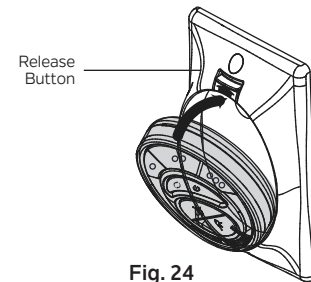

Fig. 24
Step 1. Insert the transmitter into the wall plate by inserting the bottom of the transmitter first and then pressing the top of the transmitter into the pocket. The transmitter will fully function from this location or you can remove the transmitter and use it as a hand held device. **(Fig. 24)**